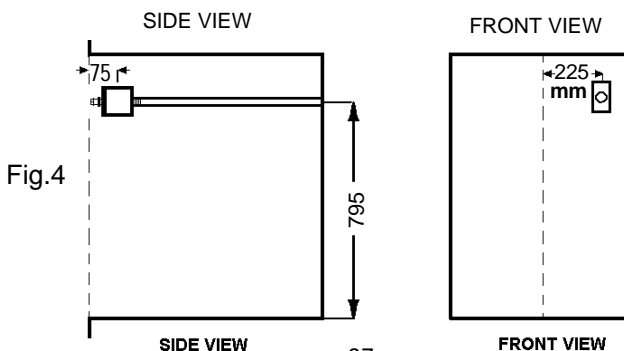

Fig.4
- 5 Install the gas supply pipe on site complete with the union elbow (See Fig.4). Note the orientation of the elbow, the connection must be upwards.